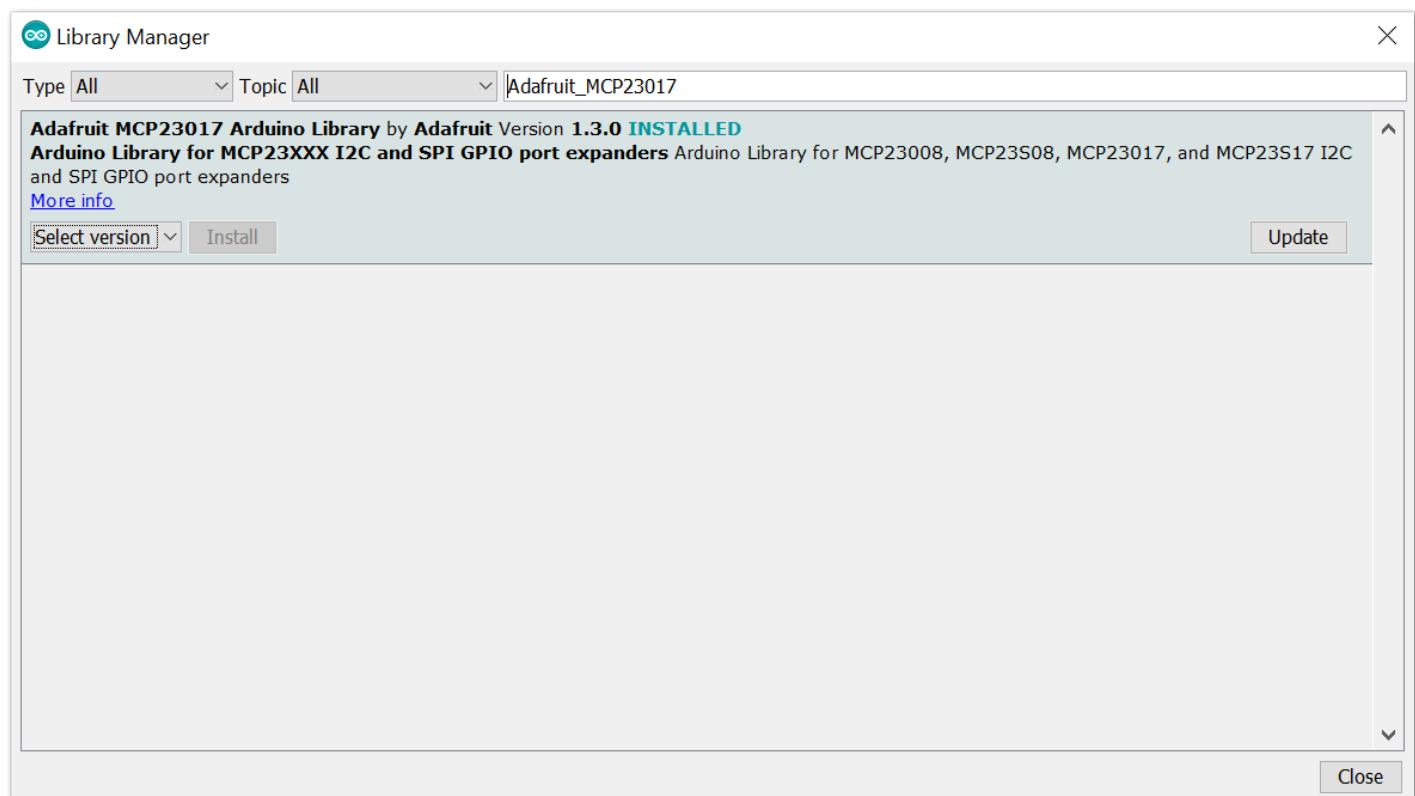

Figure 16: Selecting Version 1.3.0
4. Choose Version 1.3.0 of the library, as shown in **Figure 16**